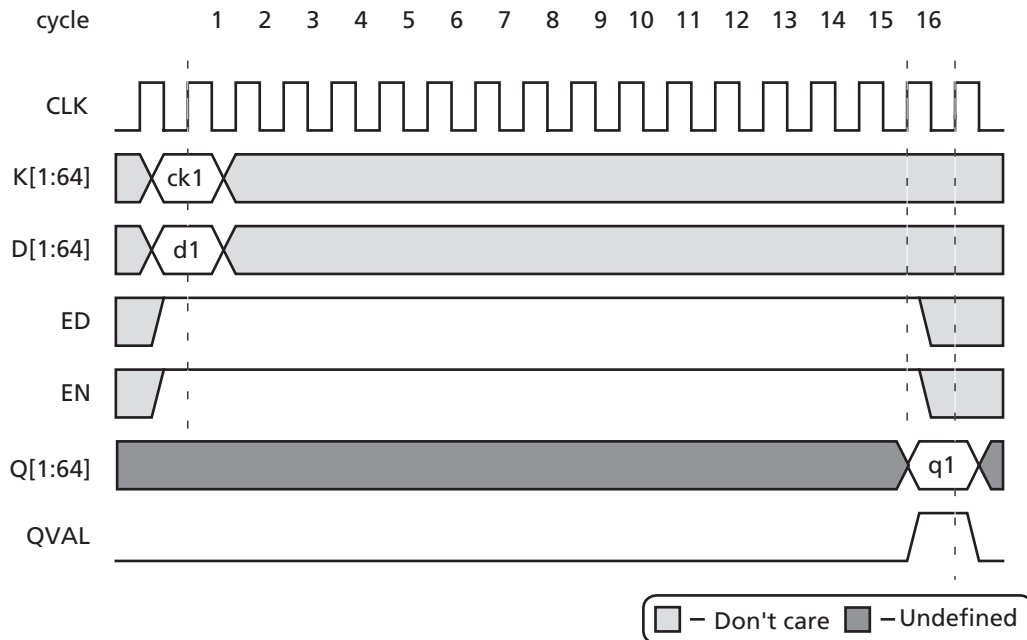

Figure 6 • Example Encryption Sequence
1. K[1:64] is set to the cipher key (ck1 in Figure 6) to encrypt the data.
2. D[1:64] is set to the plaintext data (d1 in Figure 6) to be encrypted.
After 16 clock cycles of the EN input being held continuously at a logic '1' value, the QVAL signal will transition from logic '0' to logic '1' and remain valid for one clock cycle, indicating that valid ciphered (encrypted) data (shown as q1 in Figure 6) is available on the Q[1:64] outputs.